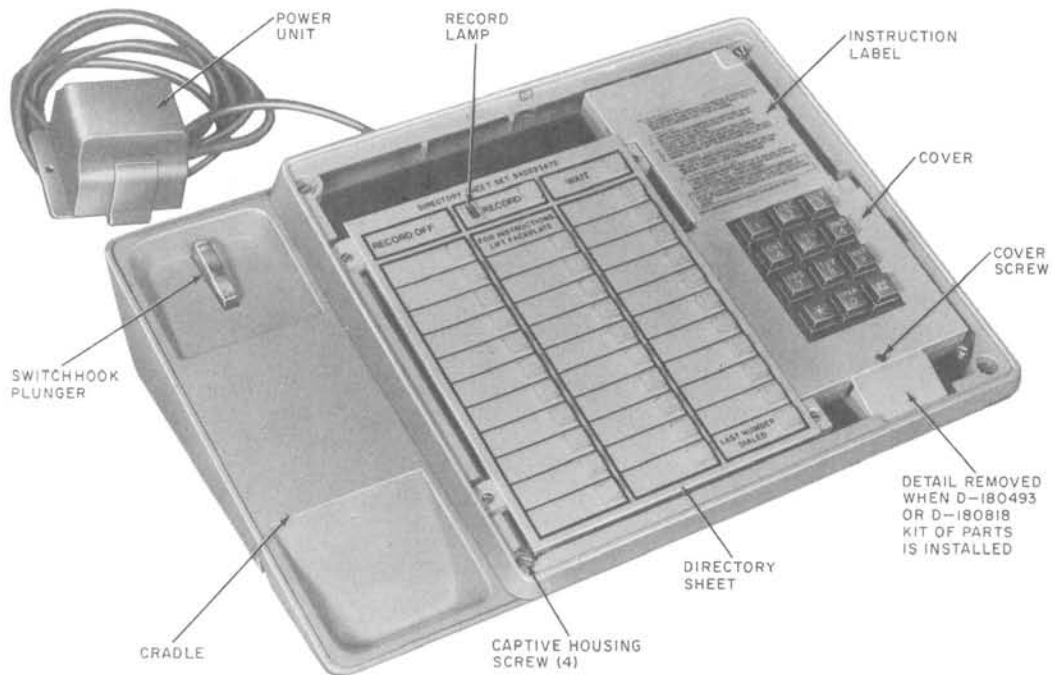

Fig. 2—Telephone Set—Faceplate and Handset Removed
2.06 Operating Features (Fig. 2).
3.05 The directory sheets (Fig. 2) fit over the buttons of the Memory and are held in place by the faceplate. Additional sheets are available in the directory sheet set (840393672).
- (5) Make connections per Table C, E, or F.
- (6) Break off the detail at the bottom of the cover (Fig. 2) and trim edge as required.
- (7) Verify correct operation of option.
- (8) Reassemble self.